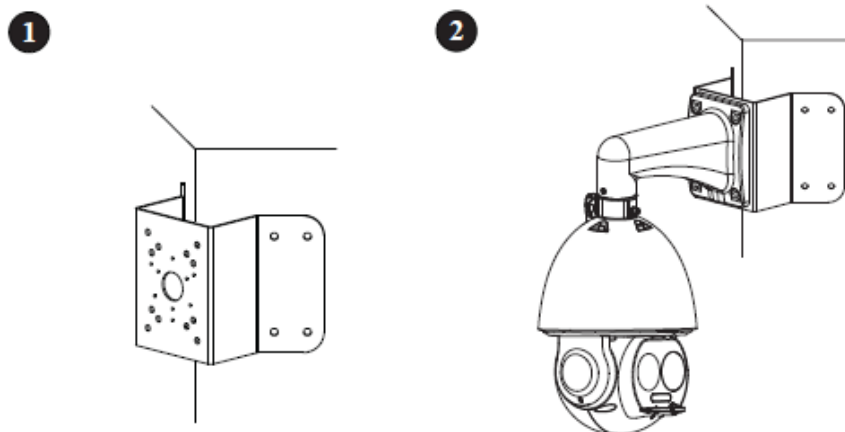

Figure 3-6
Dig holes on the installation wall, insert expansion bolts, fix with nut and paste glass cement to make it sealed and waterproof, as it is shown in Figure 3-6 (1).
Check if the thermal hybrid dome is installed firmly and complete the installation of the unit device, as it is shown in Figure 3-6 (2).